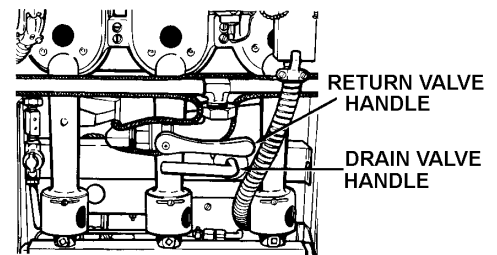

FIGURE 9. DRAIN VALVE HANDLE
**CLOSE DRAIN VALVE (REFER TO FIGURE 9)**